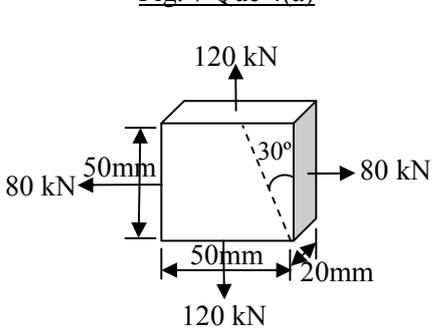

Fig. 10 Que 5(b)
- (b) A square steel plate 50 mm x 50 mm and 20 mm thick is subjected to axial tensile force in horizontal and vertical direction 80 kN and 120 kN respectively as shown in **Fig10**. Calculate normal and tangential stresses on plane inclined at  $30^\circ$  to the plane carrying 80 kN force. Also calculate resultant stress and angle of obliquity. **05**